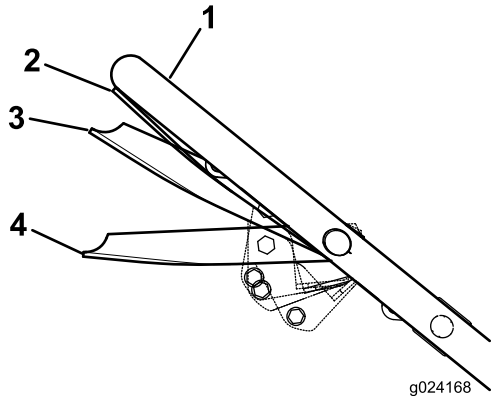

Figure 18
4. Hold the blade-control bar in the Run/Shift position, about 2.5 cm (1 inch) below the handle (Figure 18).